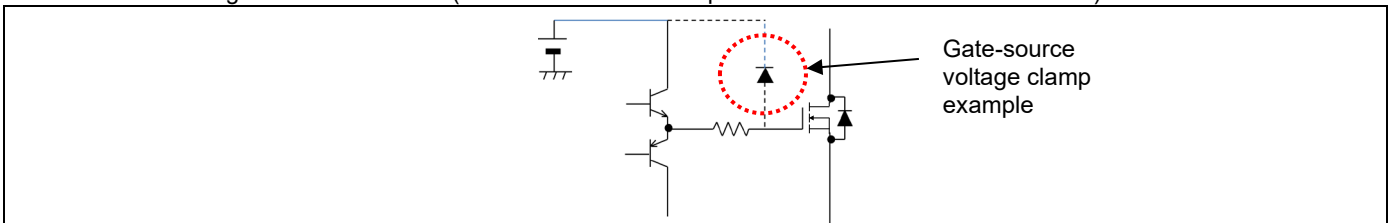

Figure 4-2. Gate-source voltage surge clamp example
- When the load is short-circuited, the gate-source voltage V_{GS} rises and may break down due to the larger current flowing. Therefore, it is recommended to suppress surges of the gate-source voltage. An example is shown below in Figure 4-2.